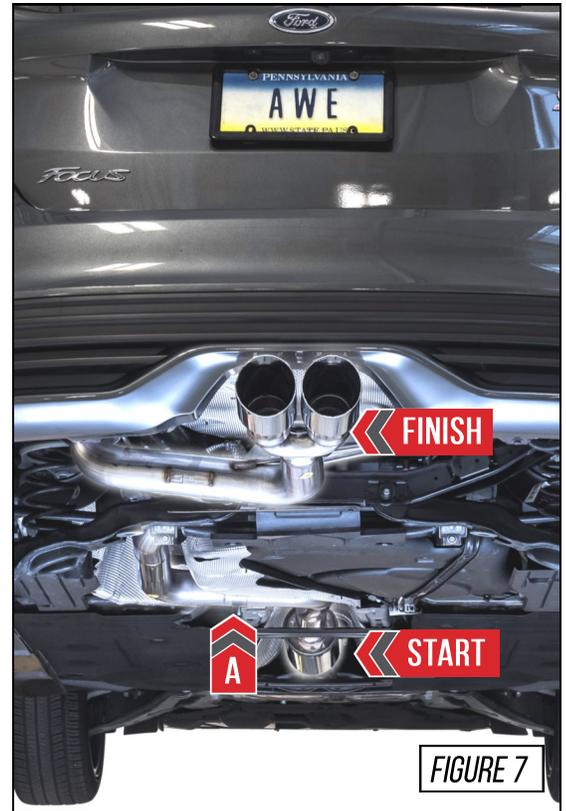

FIGURE 7
With the entire exhaust system aligned, and each clamp positioned away from the chassis to avoid any rattles, tighten and check all hardware to complete the installation, **Figure 7** shows where to start and finish.
NOTE: Arrow **A** in **Figure 7** is an adjustment point to provide spacing between the exhaust tips and bumper.
Loosen the clamp at **Arrow A** in **Figure 7** to accomplish one of the following:
- To get the tips closer to the bumper skin; pull down at the location shown by **Arrow A** in **Figure 7** to move the exhaust tips **UP**.
- To get the tips further from the bumper skin; push up at the location shown by **Arrow A** in **Figure 7** to move the exhaust tips **DOWN**